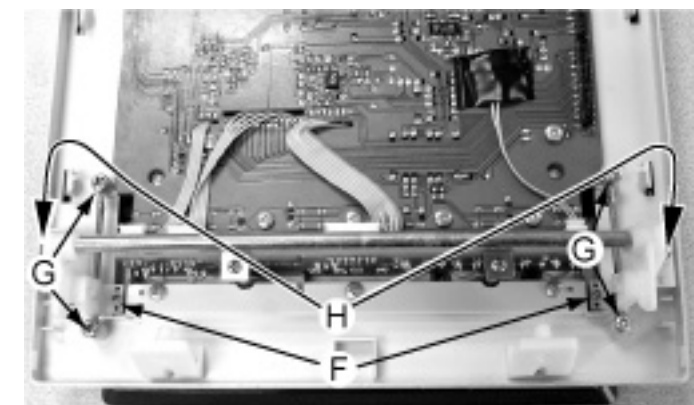

Figure 5
- 4) Loosen 2 screws F and 4 screws G and 2 screws H to remove Swing System as shown in Figure 5.